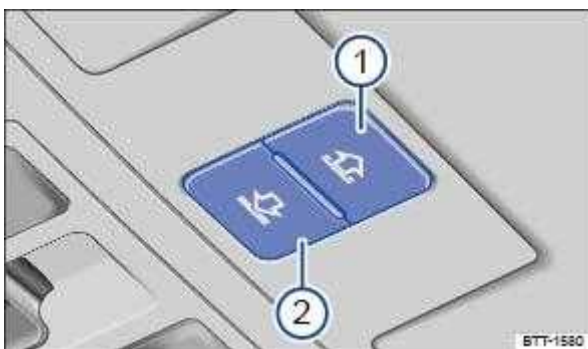

Fig. 90 In the roof: button for controlling the sun blind.
The buttons ⇒ Fig. 90 ① or ② have two positions. In the first position, the sun blind can be completely or partially opened or closed.
Within approximately five seconds of the roll-back function being activated, press and hold button ⇒ Fig. 90 ② until the sun blind has closed completely.